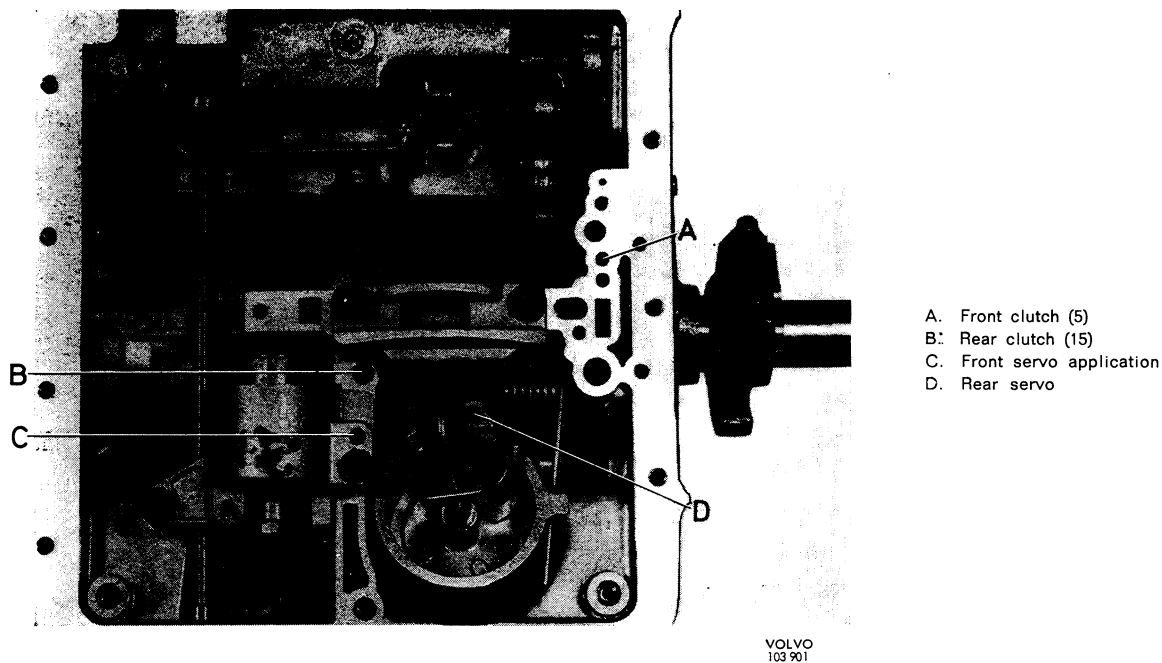

Fig. 4-67. Functioning test with compressed air
Apply air pressure to the passage (5) of the transmission case rear wall, see Fig. 4-67. Listen for a thump, indicating that the clutch is functioning. On the bench, also verify by rotating the input shaft with air pressure applied.